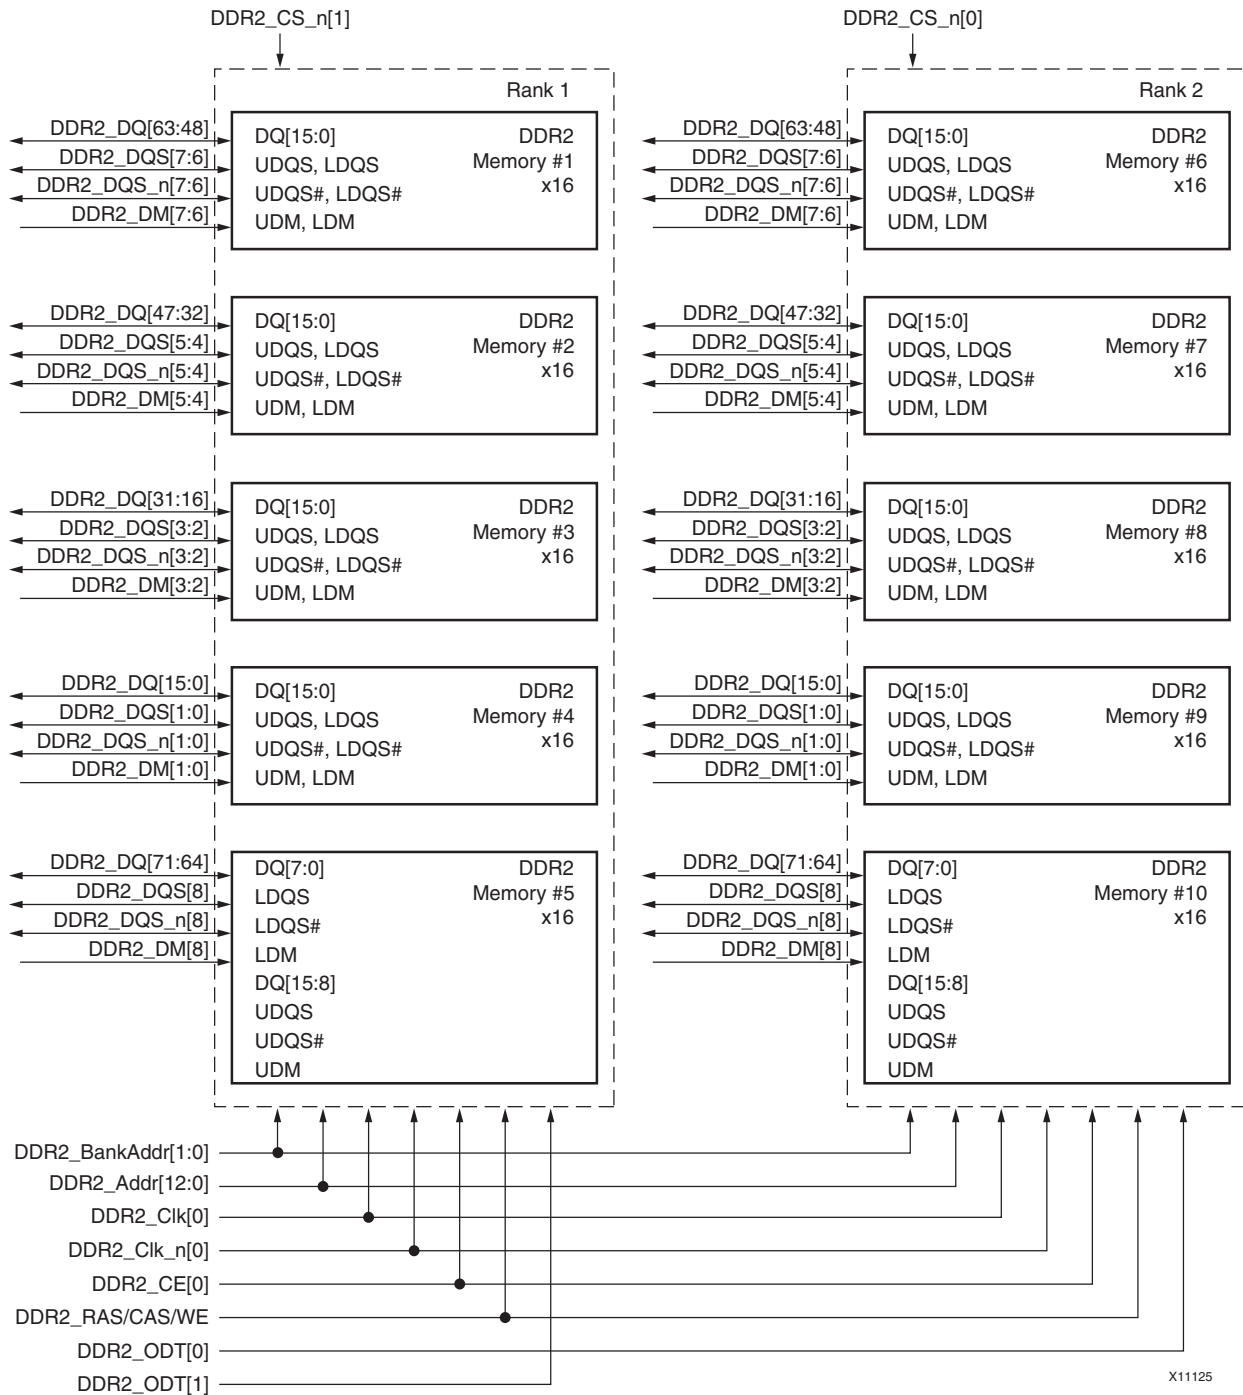

Figure 9: Example DDR2 Memory Connections
Figure 9 illustrates an example of connecting memory to a DDR2 MPMC design.
The example in Figure 9 has the following specified parameters:
- Within a particular rank, the signals `DDR2_CS_n` and `DDR2_ODT` are connected to each memory in the rank. Some memory manufactures have specific recommendations for how these signals should be connected. For example, when using a dual rank DIMM, the recommendation might be to assert `DDR2_ODT` on the same rank that `DDR2_CS_n` is asserted (as shown in Figure 9). Other recommendations might be to assert `DDR2_ODT` on to opposite rank that the `DDR2_CS_n` is asserted, which can be achieved by swapping `DDR2_ODT[0]` and `DDR2_ODT[1]`.